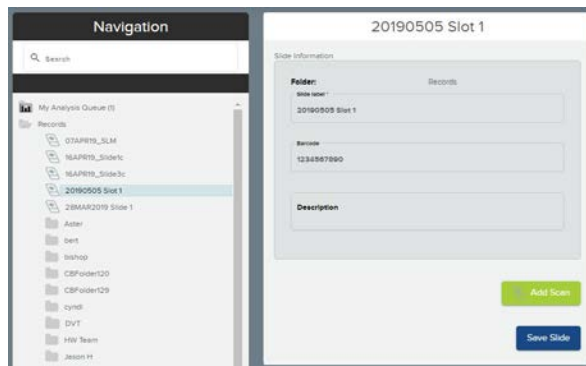

Figure 24: Navigating to a slide record
- **Select a slide**. The slide record will appear to the right of the Navigation window. Verify the information in the slide record (see Figure 24).